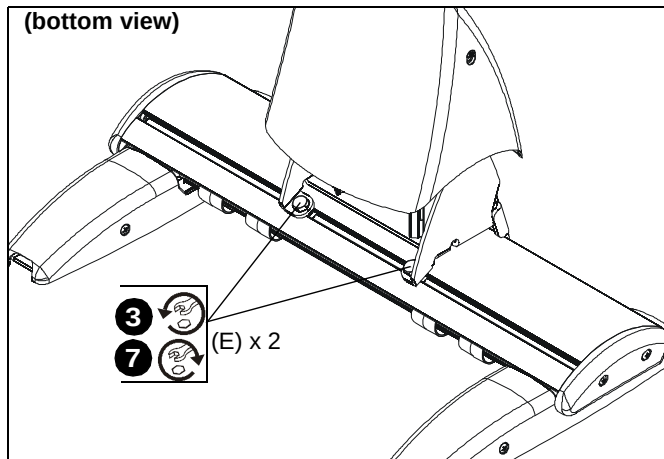

Figure 35
3. Loosen two 1/4-20 x 5/8" hex head cap screws (E) on underside of mounting bracket. (See Figure 35)